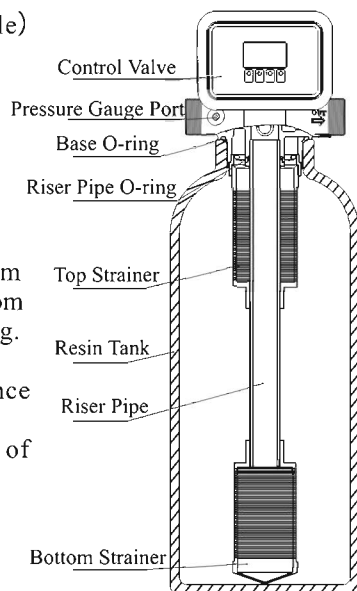

Figure 1-1
- ①The filter or softener should be located close to drain.
- ②Ensure the unit is installed in enough space for operating and maintenance.
- ③Brine tank need to be close to softener.
- ④The unit should be kept away from the heater, and not be exposed outdoor. Sunshine or rain will cause the system damage.
- ⑤Please avoid installing the system in one acid/alkaline, magnetic or strong vibration circumstance, because above factors will cause the system disorder.
- ⑥Do not install the filter or softener, drain pipeline in circumstance which temperature may drop below 5°C, or above 50°C.
- ⑦Install the system in the place where with the minimum loss in case of water leaking.
①Install control valve
b. As the Figure 1-1 shows, insert the riser pipe to the bottom strainer, glue the connection part, and put it into the bottom tank, cut off the exceeding pipe out of tank top opening. Plug the riser pipe in case of mineral entering.